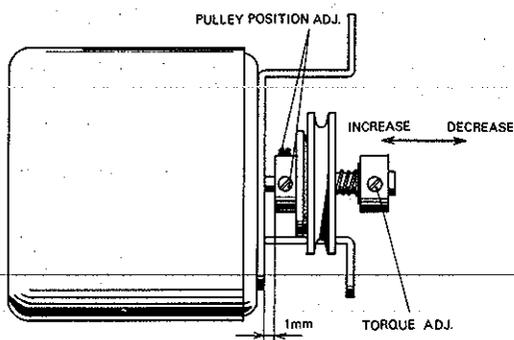

Fig. 1-2
- (2) Fast Forward and Rewind Torque should not be less than  $50g\text{-cm}$ .
- (3) Adjust the friction torque by adjusting location of motor friction pipe. Refer to the Fig. 1-2.